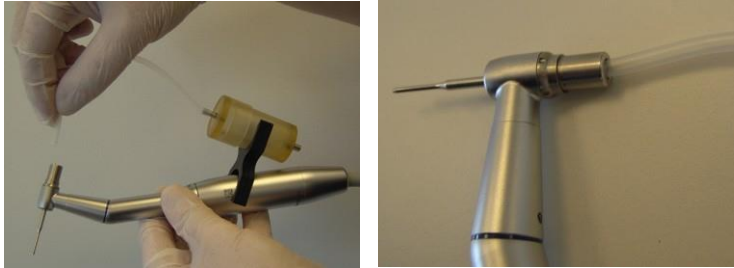

Figure 3-58. Connecting the Graft Tube to the Handpiece
14. Connect the other end of the graft tube to the hole on the contra-angle head's button, as shown in Figure 3-58.